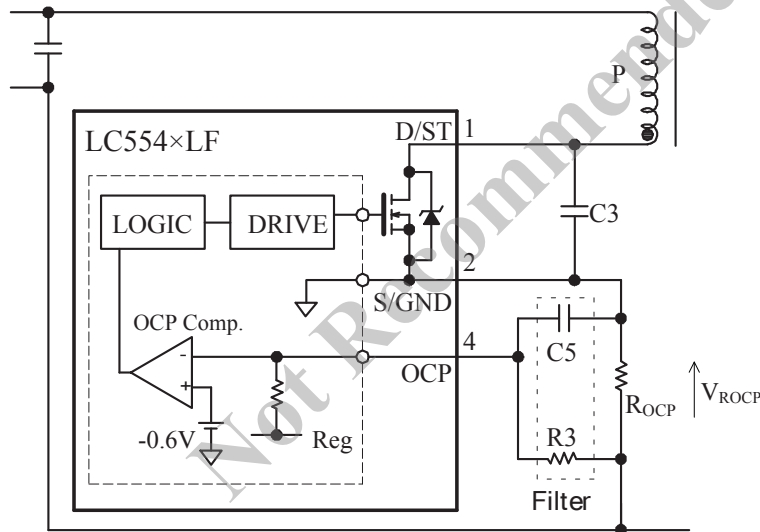

Figure 23. OCP circuit for negative side detect
The drain current of the power MOSFET is detected by the current detection resistor,  $R_{OCP}$ , placed between the OCP pin and the S/GND pin, as shown in figure 23.
- reduce the voltage resonant capacitor  $C_V$  ( $C_3$  in figure 23) capacitance